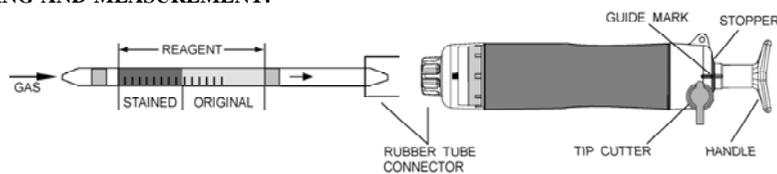

Fig.1
- ② Insert the detector tube into aspirating pump securely as shown in Fig.1. (Arrow mark shall point to the pump.)
- ③ Align the guide marks on the handle and stopper of the aspirating pump.
- ④ Pull the pump handle at full stroke (100mL) until it locks and wait for 1.5 minutes as it is or until the sampling is confirmed as to be completed. (See descriptions of the flow indicator in the pump instruction manual).
- ⑤ After the sampling is completed, read the scale at the top of the stained layer. True concentration of **Acetic acid** and/or **Formic acid** can be obtained after temperature correction respectively.
- ⑥ In case of **Acrylic acid, Isovaleric acid, Isobutyric acid, n-Valeric acid, Propionic acid, Acetic anhydride, Methacrylic acid and/or Butyric acid** measurement, convert the reading value by using the respective conversion chart undermentioned.
- ⑦ In case of **Maleic anhydride** measurement, repeat above ③ to ④ procedures three (3) times more. After the sampling is completed, read the scale at the maximum of the stained layer and multiply the reading value by 0.2.